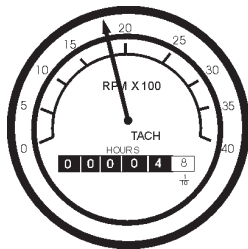

Figure 50. Engine Tachometer
10. The tachometer (Figure 50) will indicate the speed of the engine when the generator is operating. Under normal operating conditions this speed is approximately 1800 RPM's.